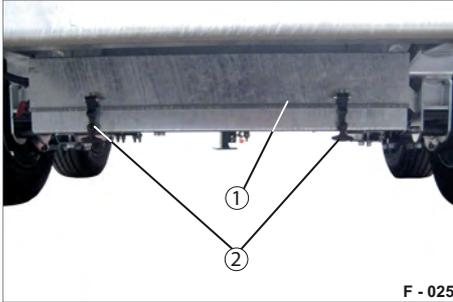

Fig. 29 Electro-hydraulic unit, closed
- ▶ Open the fasteners (Fig. 29/2).
- ▶ Fold the cover (Fig. 29/1) upwards.